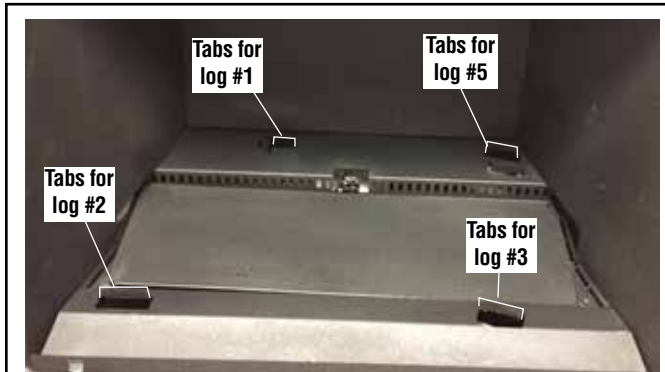

Figure 14A - Locate the log placement tabs, BRMTN27
1. If necessary, remove the glass door (**Page 26**). Locate and bend up Burner Locating Tabs (**Figure 14A or 14B**).
2. Locate the log placement tabs (**Figure 14A or 14B**). Place embers and other media (*see Page 18*).
3. Align the notches in the bottom of the rear log (1) with the left rear locating tabs (*see Figures 14A/B and 15*).
4. Position the left front log (2) on the left front log tab and the left burner locating tab (*See Figures 14A/B and 16*).
5. Position the right front log (3) on the right front locating tab and right burner locating tab (*See Figures 14A/B and 17*).
7. Position the right cross log (5) over the right rear locating tab (*see Figures 14A/B and 18*).